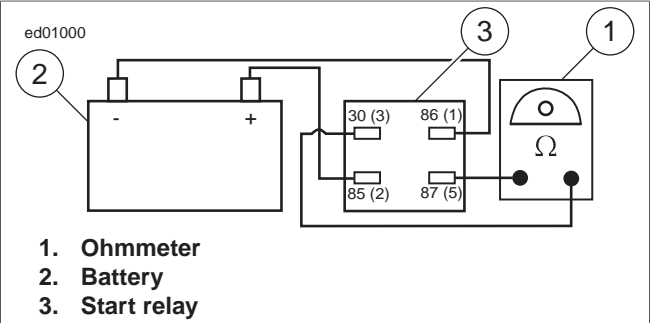
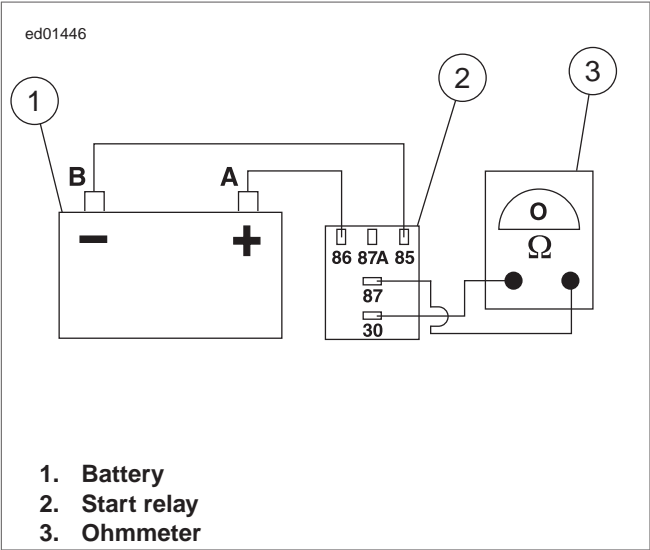

Figure 1-28. Four Terminal Relay Test
Figure 1-29. Five Terminal Relay Test
2. See Figure 1-28 and Figure 1-29 to energize the relay. Connect relay terminal 85 to the negative battery terminal and relay terminal 86 to the positive battery terminal.